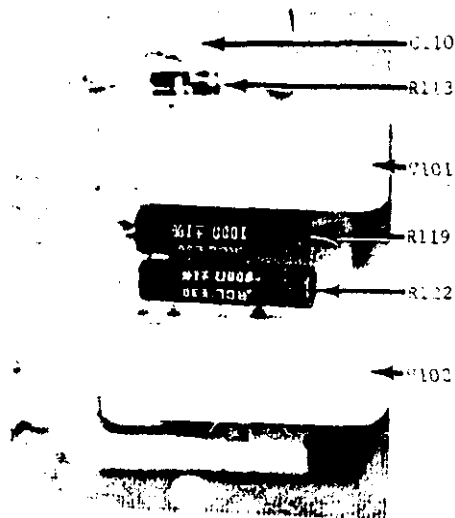

FIGURE 22 (left). Component Locations on Printed Circuit 84. The red dots on V101 and V102 are toward each other.
2. Connect the voltmeter between the plates of V101 and V102 (Figure 22). Adjust the COARSE and MEDIUM ZERO Controls for null. If a null cannot be reached, check V101, V102, the COARSE and MEDIUM ZERO Control circuits (resistors R128 to R151), and transistors Q101 and Q102. Check the transistors by removing them and adjusting for null again. If null is now reached, replace the transistor pair with a new pair.